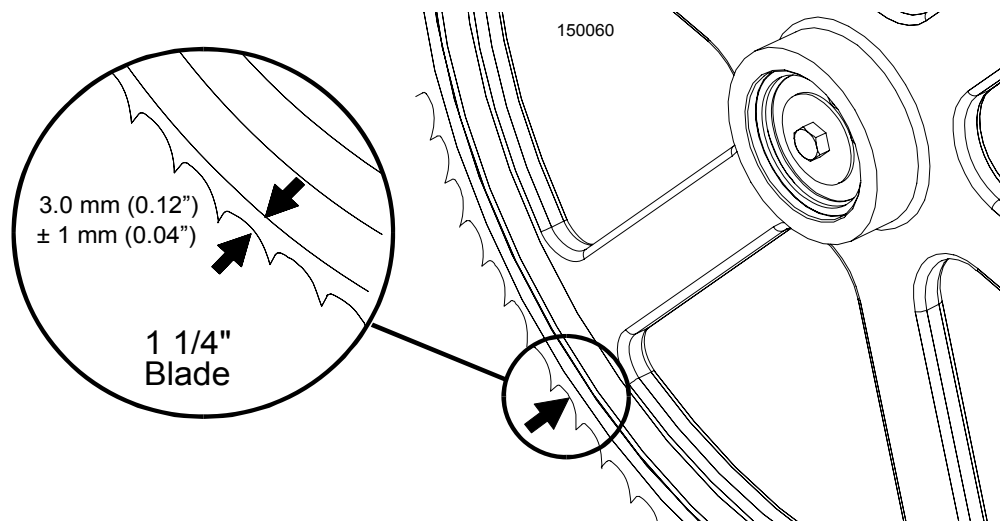

FIG. 6-5
**See Figure 6-5.** The horizontal tilt of the blade wheel should be adjusted so that the gullet of an 1-1/4" blade is 1/8" (3 mm) out from the front edge of the wheel ( $\pm 1/32$  [0.75 mm]).